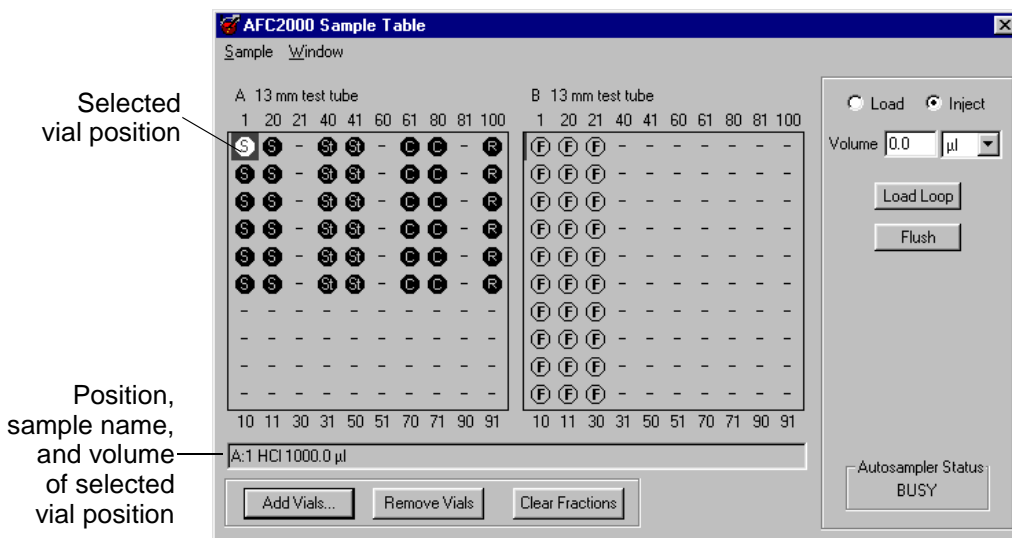

Figure 4-32 AFC 2000 Sample Table Window
The AFC 2000 Sample Table window is displayed (Figure 4-32). The number, arrangement, and labeling of vials in the Sample Table reflect the type of rack you configured. See “Rack type” on page 4-45.
The Sample Table window is displayed again, with all selected vial positions labeled with the designated vial type: Sample (S), Standard (St), Control (C), Reagent (R), or Empty Fraction (F). Click any vial position to display the position, sample name, and volume at the bottom of the Sample Table window (see Figure 4-32 on page 4-53).
The AFC 2000 Sample Table window is displayed (see Figure 4-32).